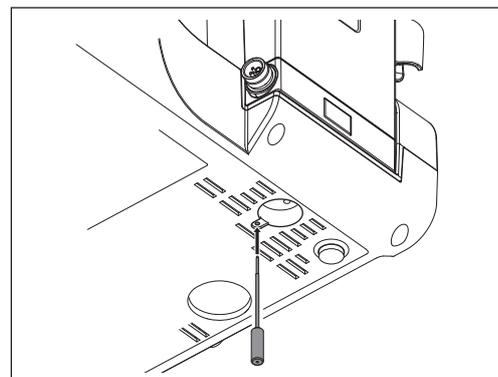

Fig. 43
- 1) Insert the included Unlocking Tool into the hole on the base of the Control Unit and push it in all the way. (Fig. 43)